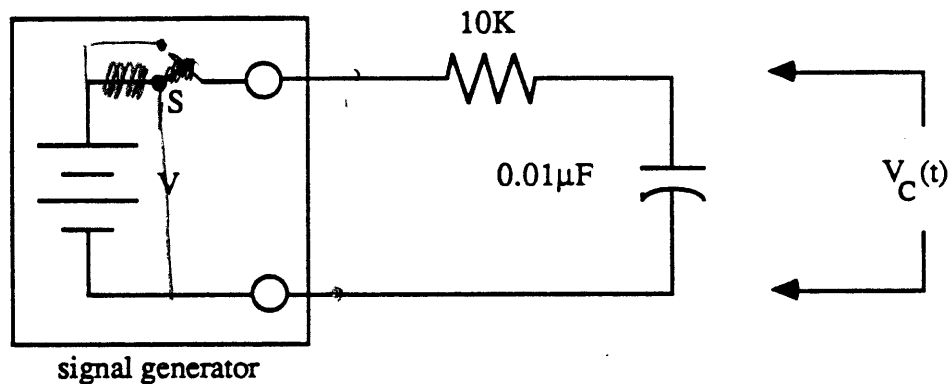

Figure 3.1 - Time response of RC circuit
In Circuits I you analyzed the time response of the circuit shown in Figure 3.1 assuming that the switch S was closed at time $t=0$. We will experimentally verify your analysis except, instead of using a switch, we will use the signal generator. A square wave signal generator output which goes from 0 to some positive voltage V will simulate the opening and closing of the switch S connected to a battery of voltage V as shown in Figure 3.1.
To begin this lab construct the circuit shown in Figure 3.1. Adjust your signal generator output to produce a ~~0 to 10~~ ^{change to 0-1 volt} volt, 500 Hz square wave. Note that this may require adjusting both the output amplitude and DC offset of the generator output. Connect the output of the signal generator to your circuit. Measure the voltage across the capacitor with your oscilloscope. Plot the time dependent voltage waveform you see on the scope on the graph in Table 3.1.
1. What was the measured time constant of your circuit? Did it agree with the calculated value? $5.2 \text{ cm} \times 20 \text{ msec/cm}$ [Figure 3.1]